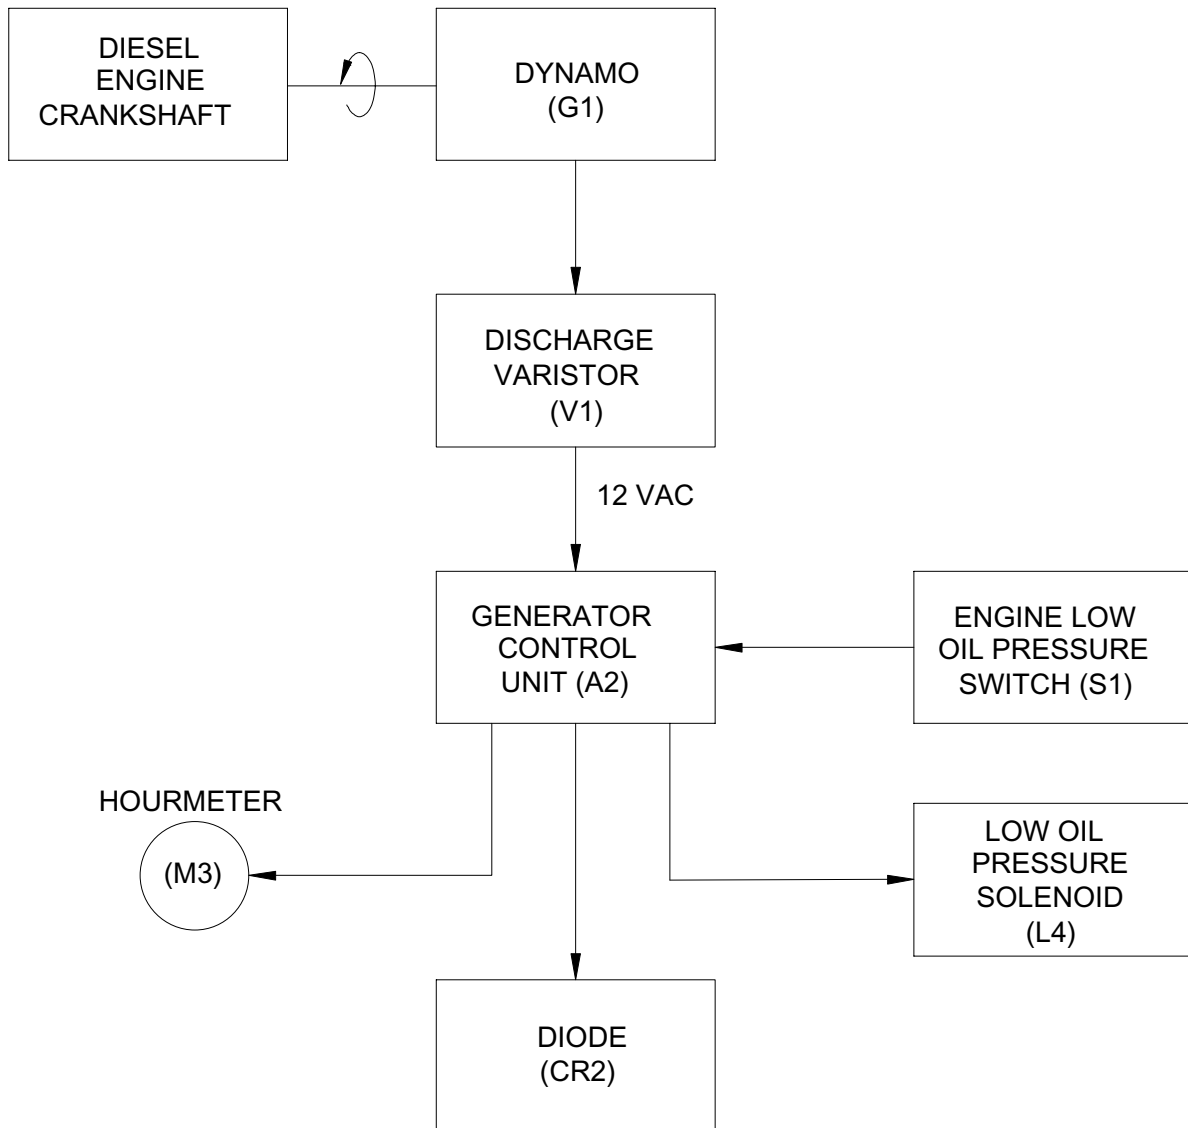

Figure 1-11. Generator Control Circuit
1.23.1. The generator control circuit (Figure 1-11) consists of a dynamo (G1), the generator control unit (A2), discharge varistor (V1), HOURS meter (M3), and diode (CR2).